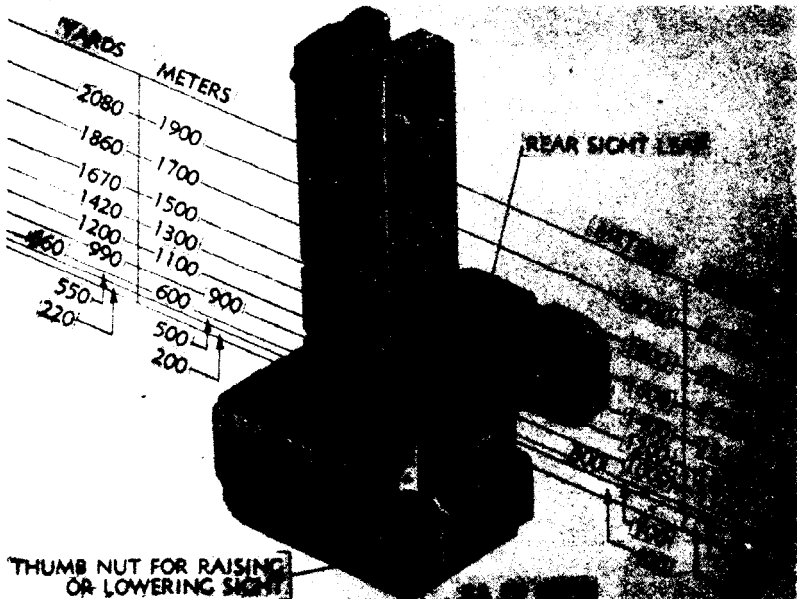

Figure 35 — Rear Sight — Meters and Yards
(1) The divisions on the rear sight in meters and yards are shown in figure 35.